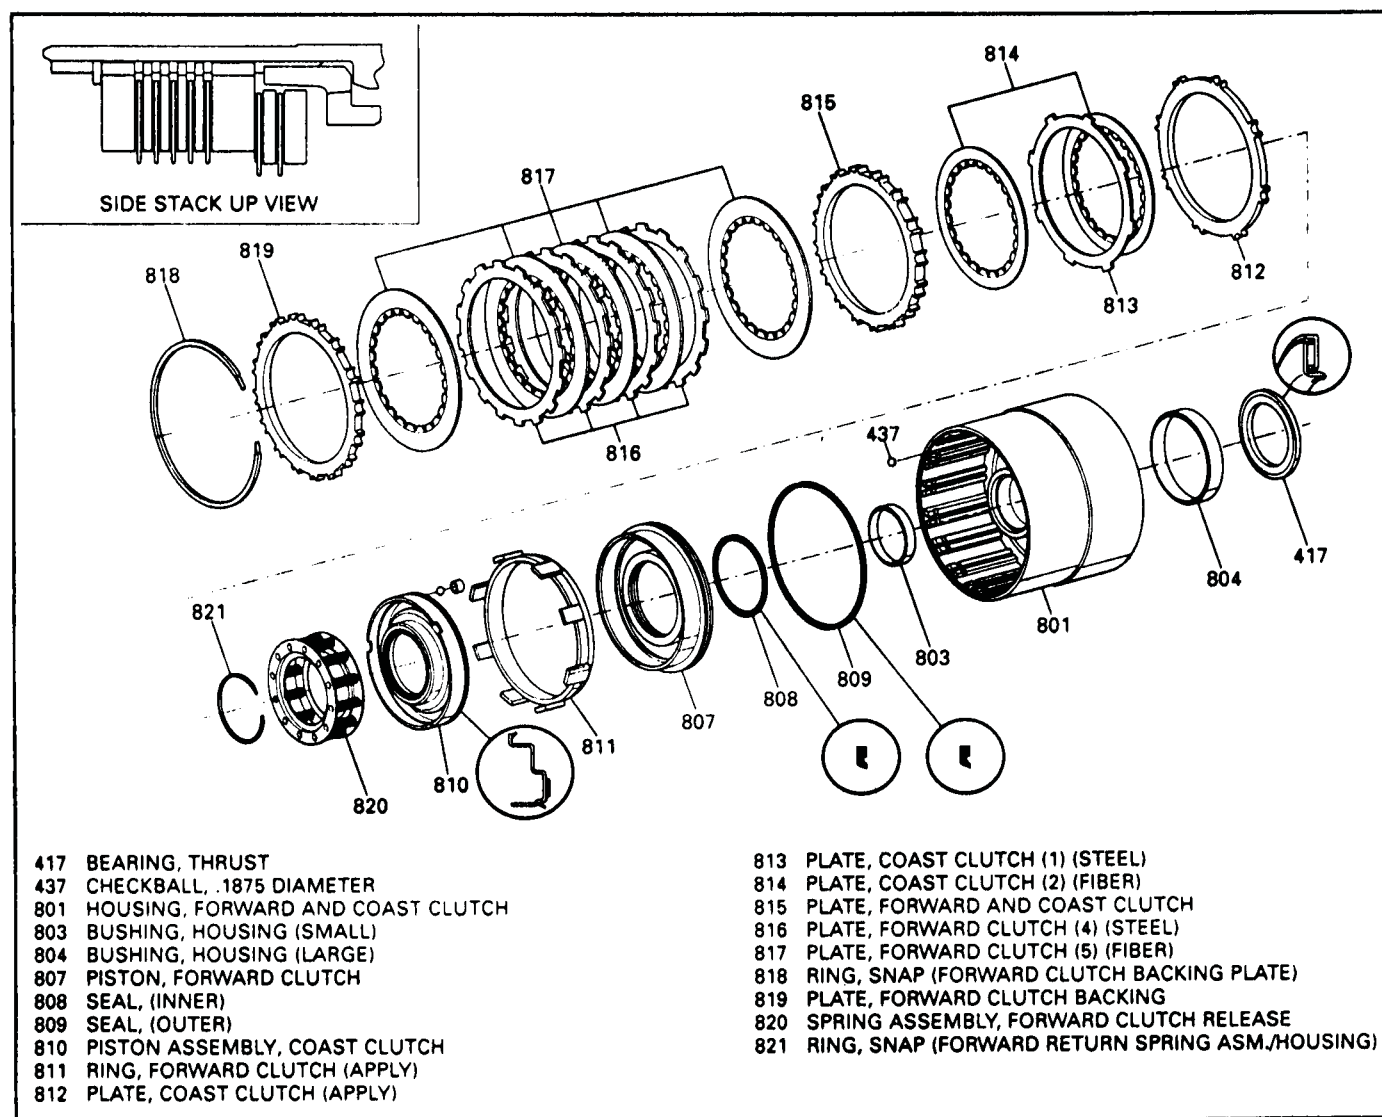

Figure 75
1. Install new inner and outer lip seals onto forward clutch piston with lips facing down, as shown in Figure 75.
(See Figures 75 and 78).
8. Install return spring assembly (820) as shown in Figure 75.
12. Install coast clutch apply plate (812), as shown in Figure 75. See inset in Figure 75 for clutch plate stack-up.
13. Install coast clutch lined plates and 1 steel plate as shown in Figure 75.
14. Install forward clutch apply plate (815) on top of last lined coast clutch (See inset in Figure 75).
15. Install forward clutch plates beginning with a lined plate and alternating with steel plate (See inset Figure 75).
16. Install forward clutch backing plate (819), and backing plate snap ring.
(See Figure 75).
18. Install thrust bearing onto hub of the support. Use the inset in Figure 75 for proper direction of bearing.